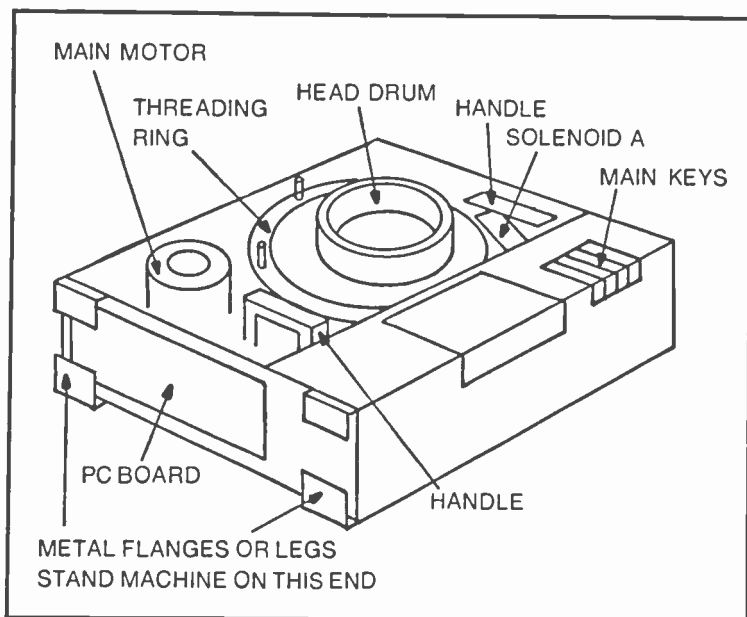

Fig. 16-4. Handles and legs.
- Lift out the main section by the handles shown in Fig. 16-4.
- The main section can stand flat in its normal operating position, or it can be stood on end, using the flanges provided as legs. See Fig. 16-4.